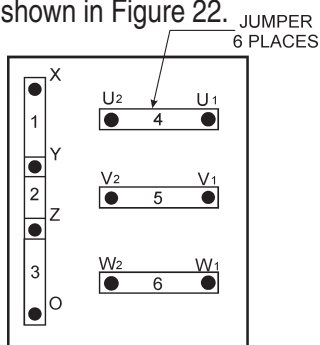

Figure 22. Voltage Change-Over Board 240V Configuration
1. Jumper the voltage change-over board for 240V operation as shown in Figure 22.
1. Make sure the voltage change-over board is jumpered for 240V operation as shown in Figure 22.